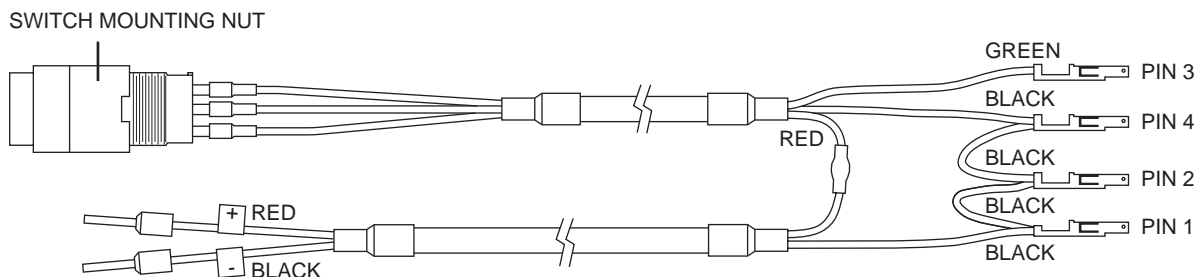

Figure 6: Pulsar cable assembly
6. Install the 4-pin connector by inserting Pins 1-4 of the cable assembly into the connector as shown in Figures 6 and 7. (Once a pin is snapped into the connector, it cannot be removed.)